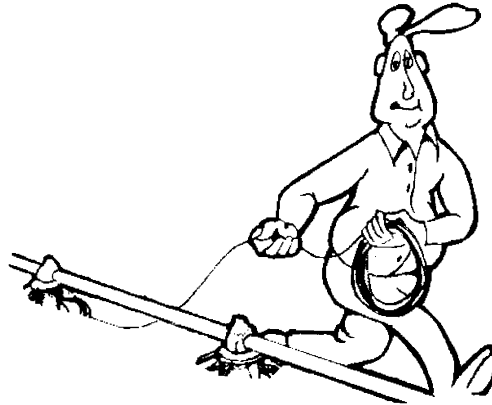

Figure 54. Unrolling the Cable
1. Unroll the bulk anti-roost cable. Note: If the cable is unrolled as shown in Figure 54, taking 5 loops of the coil with one hand, then changing hands to remove 5 loops as it is unrolled, it will lie flat during installation.